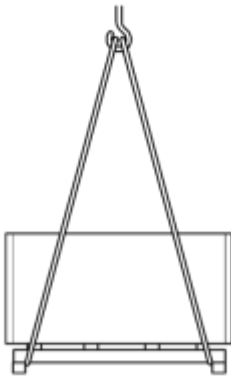

Fig.27: Attach lifting straps
1. Attach ropes, belts, or multi-position hanger according to fig. 27 and secure pallet against sliding.